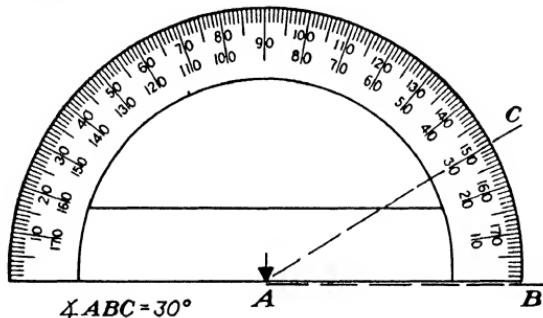

Fig. 104.
- a. Place the protractor as if measuring an angle whose vertex is at A (see Fig. 104).